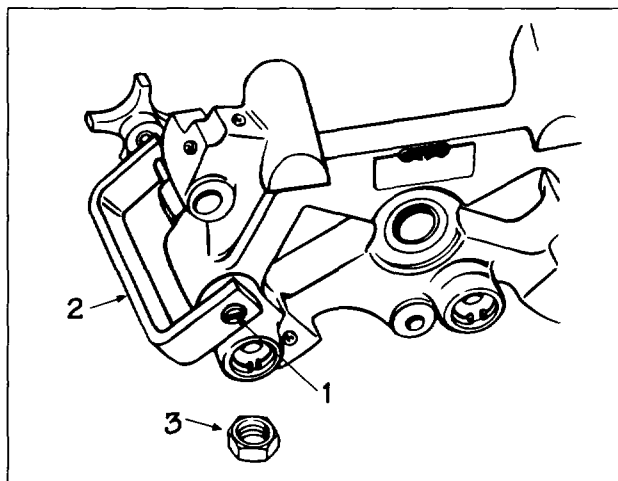

FIG. 29
1. Remove the locknut (3) on the slave piston adjusting screw (1). Back out the adjusting screw until the slave piston is fully retracted (screw is loose).
2. Place the hole in the clamp fixture (2) over the slave piston adjusting screw (see Fig. 29).
3. While holding the fixture in position, screw holder down over the slave piston (4) until the spring retainer (7) is contacted.
4. Turn the handle slowly until the retainer is depressed to about 1 mm (0.040"), relieving pressure against the retaining ring (8).